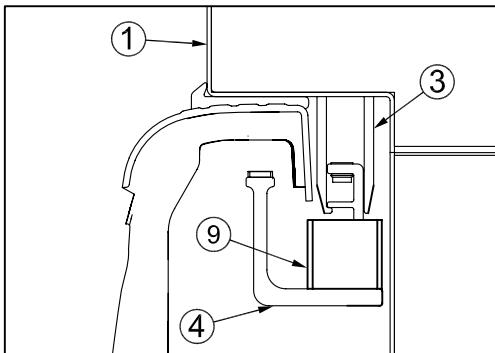

Fig. 7
8. Confirm proper assembly of J-hook (#4) and J-hook receiver (#3). (See Fig. 7)